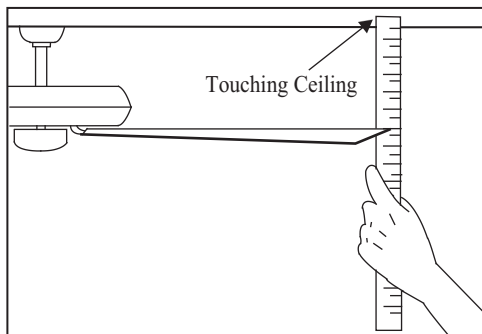

Figure 10
2. Most fan wobble problems are caused when blade levels are unequal. Check this level by selecting a point on the ceiling above the tip of one of the blades. Measure from a point on the center of each blade to the point on the ceiling. Measure this distance as shown in Figure 10. Rotate the fan until the next blade is positioned for measurement. Repeat for each blade. Measurements deviation should be within 1/8". Run the fan for 10 Minutes.